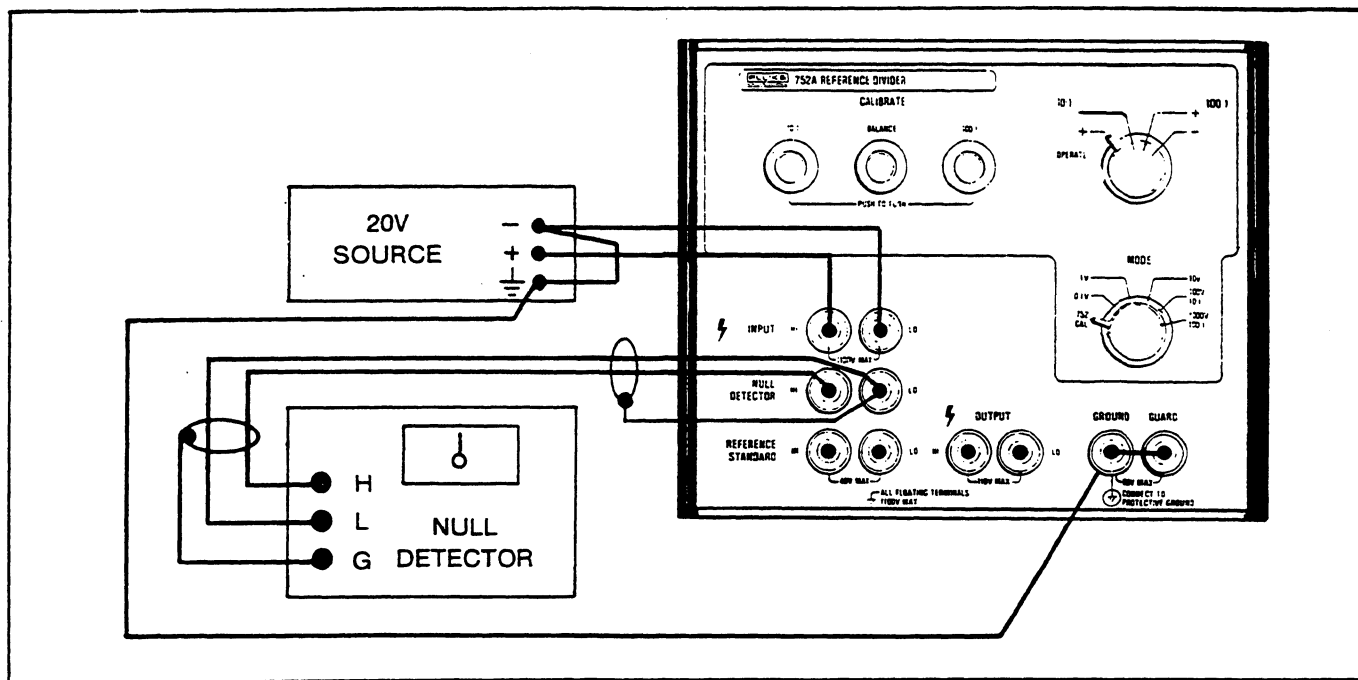

Figure 2-2. Self-Calibration Setup
2-18. Complete the following procedure to self-calibrate the 752A. The test equipment required is shown in Table 2-2. Equivalent test equipment may be substituted providing it meets the minimum specification given in Table 2-2. Connect the equipment as shown in Figure 2-2.
3. Connect the 752A as shown in Figure 2-2.